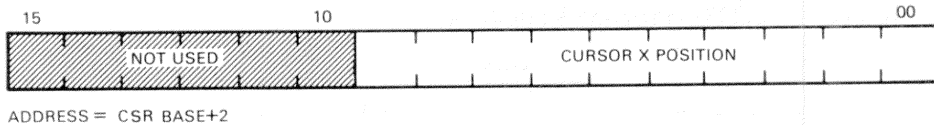

Figure C-22 VCB01 Cursor X-Position Format
C.2.2.2 Cursor X-Position – This register (Figure C-22 and Table C-5) contains the horizontal position location of the top left corner of the 16 × 16 (pixel) cursor image. The value is in pixels and must not allow the cursor to be positioned beyond the maximum X pixel. That is, the maximum value is 1007 (1023 – 16) for a VR260 monitor, and 783 (799 – 16) for a 38 cm (15 in) monitor.